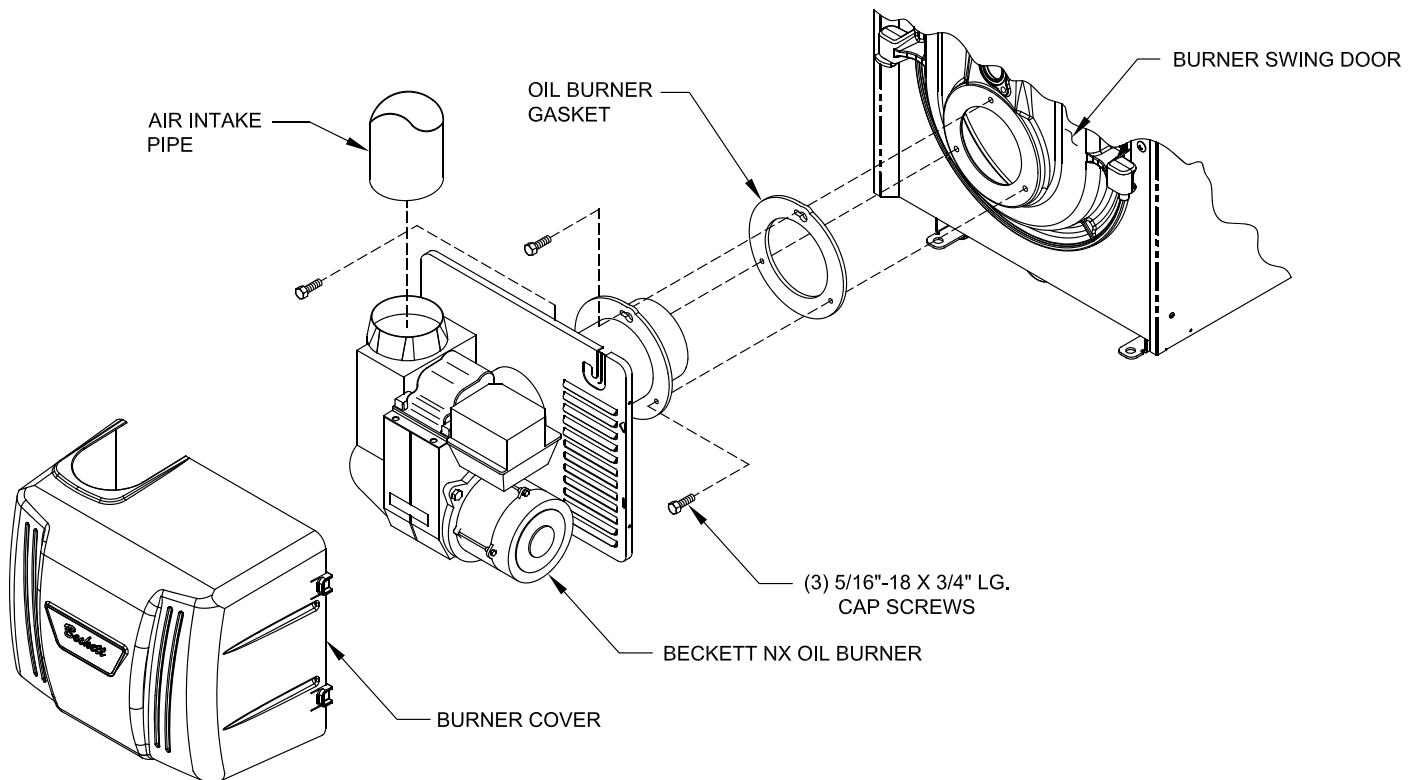

Figure 26: Oil Burner Installation (NX Beckett shown)
3. Remove burner from carton. Secure burner to boiler with mounting hardware included with burner swing door. See Figure 26.
4. Remove knockout for 4" vent pipe collar from burner cover. See Figure 26.
8. Secure the pipe to collar with at least (3) sheet metal screws (installer provided) evenly spaced around the collar.